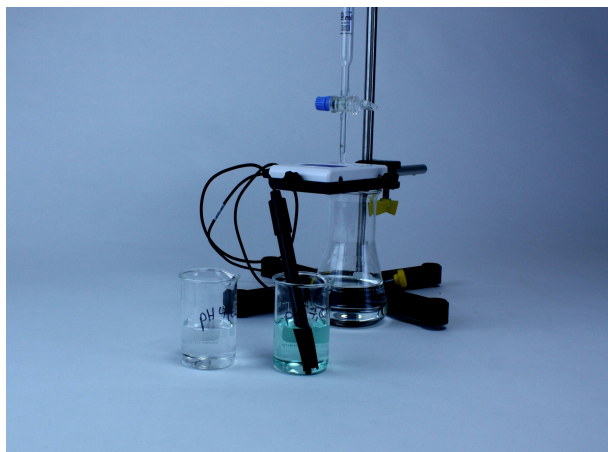

Fig. 3
- Before starting the experiment, the pH electrode needs to be calibrated. To do so, prepare two beakers with respective buffer solutions. Buffer solutions are prepared with buffer tablets by adding the respective buffer tablets to 20 mL buffer solution. Remove the protection cap of the pH electrode and submerge the electrode into the solution (Fig. 3).